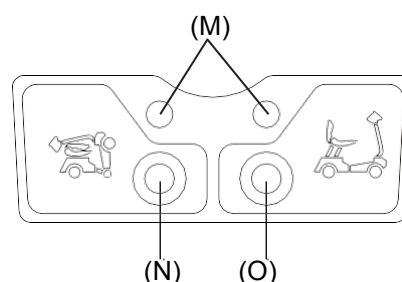
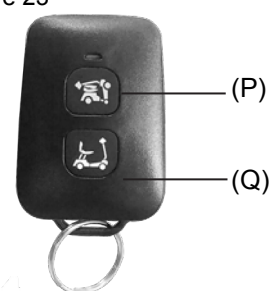

Figure 23
Figure 24
- When the scooter is switched off and on standby for folding / unfolding, the folding / unfolding light indicator (M) on the scooter will be orange. (Figure 23)
- Buttons on scooter (Figure 23)
- Press folding button (N) once to auto-fold. Please make sure the scooter is fully expanded before folding.
- Press unfolding button (O) once to auto-unfold. Please make sure the scooter is fully folded before unfolding.
- Press (N) / (O) again to fold / unfold if folding / unfolding process is interrupted.
- Buttons on remote (Figure 24)
- Press folding button (P) once to auto-fold. Please make sure the scooter is fully expanded before folding.
- Press unfolding button (Q) to auto-unfold. Please make sure the scooter is fully folded before unfolding.
- Press (P) / (Q) again to fold / unfold if folding / unfolding process is interrupted.